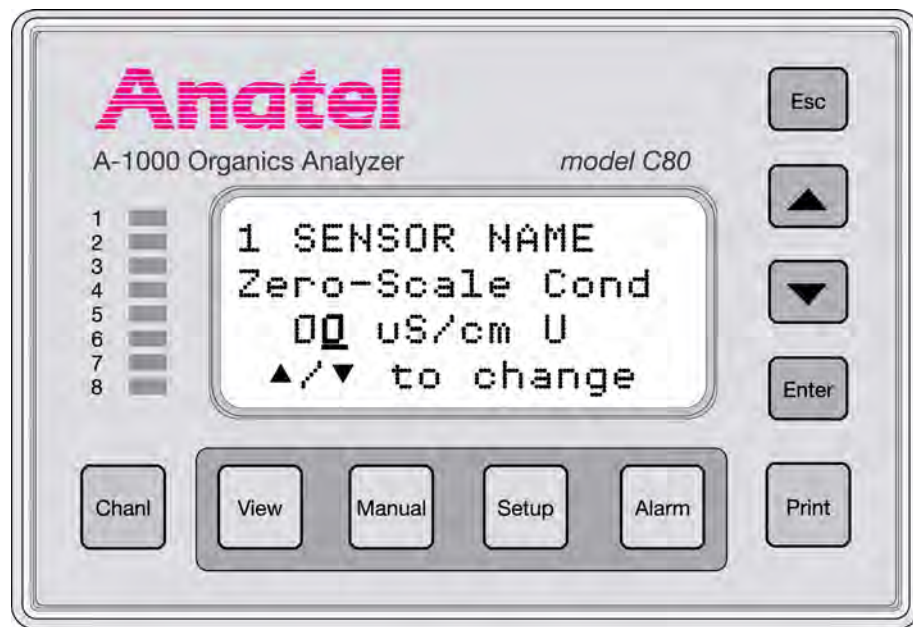

Fig 5-7 : Uncompensated Zero-scale Conductivity Display
- 7) Select **DAC Zero-Scale** to show the **Uncompensated Zero-scale Conductivity Display** screen, shown in Figure 5-7.